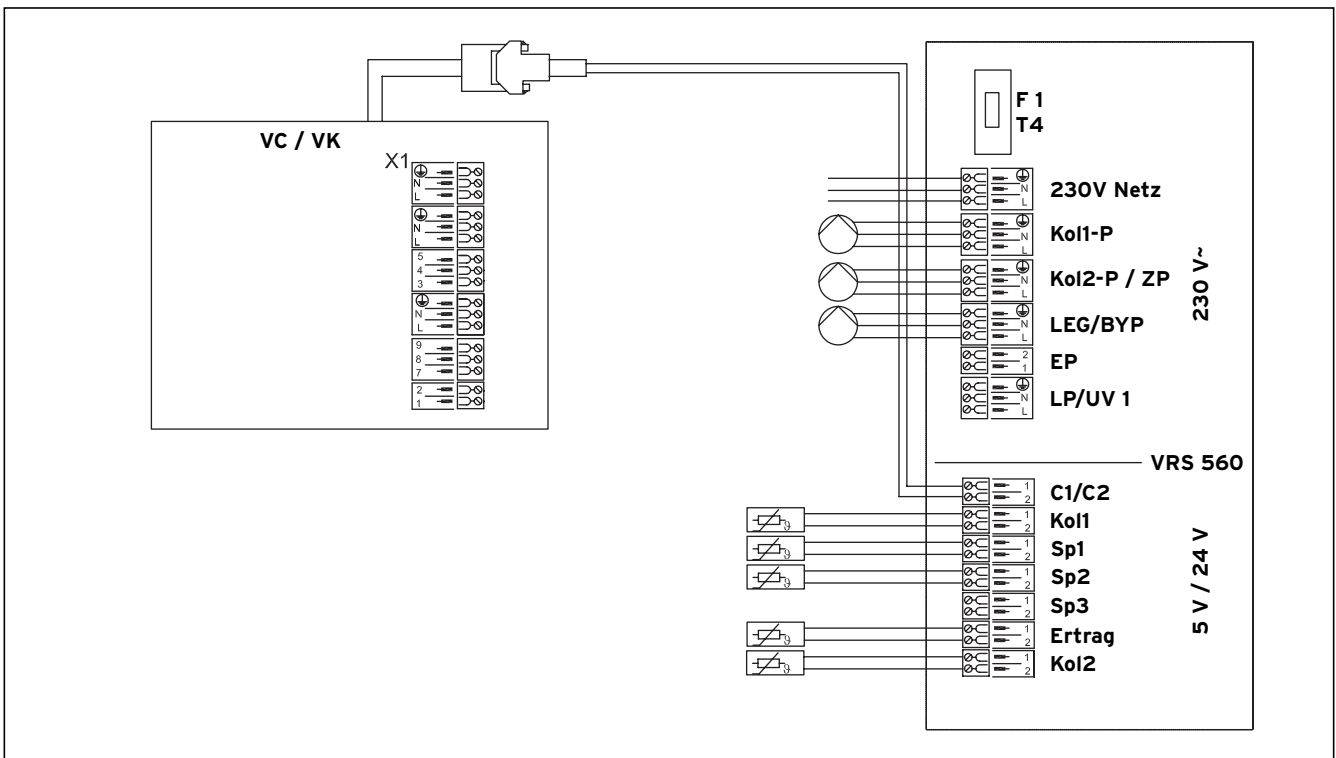

Fig. 5.8 Connection diagram for hydraulic plan 2
**Table 5.5 Key for Fig. 5.7 and Fig. 5.8**
**Table 5.5 Legend for Fig. 5.7 and Fig. 5.8 (continued)**